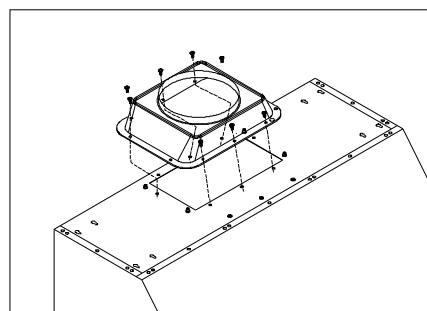

Figure 11
- Attach ducting transition to hood exhaust with ten (3/16" x 3/8") screws (included). Refer to Figure 11.